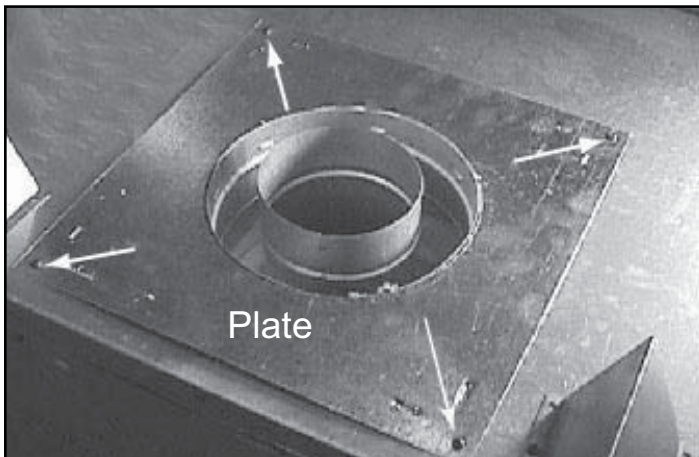

Figure 7.2 Remove Plate Screws
- Remove four screws holding the plate surrounding the flue. See Figure 7.2. Remove the plate.
- Locate the plate removed in Figure 7.2. Place the plate around the rear vented collars. Use four screws to hold the plate in place. See Figure 7.11.